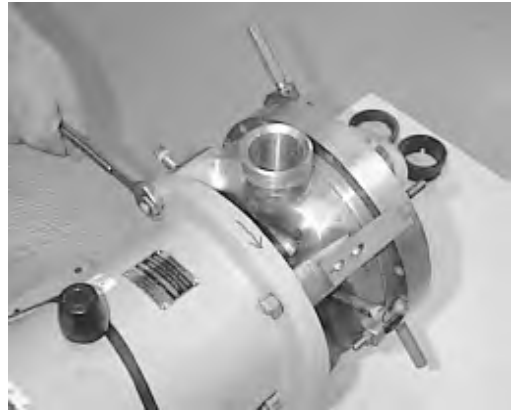

Figure 15 REMOVE BODY NUTS (4)
2. Remove four nuts. (Figure 15)